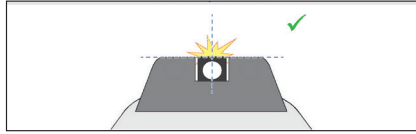
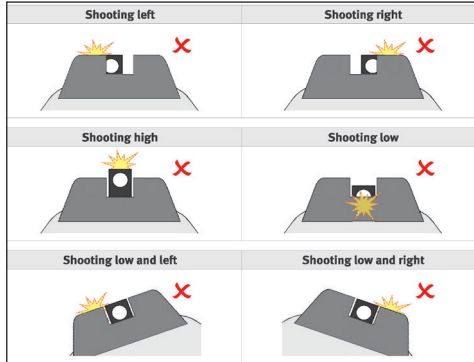

Figure 14 – Correct sight alignment
Figure 15 – Common sight alignment errors
The VP9A1 is equipped with a traditional sighting system. The sights are adjustable for windage by drifting. Sights are installed and aligned by HK technicians at the factory. Figure 14 shows correct sight alignment, the VP9A1 series is a center hold. Figure 15 shows common sight errors.
1. Acquire the proper sight alignment and sight picture (see Figure 14).